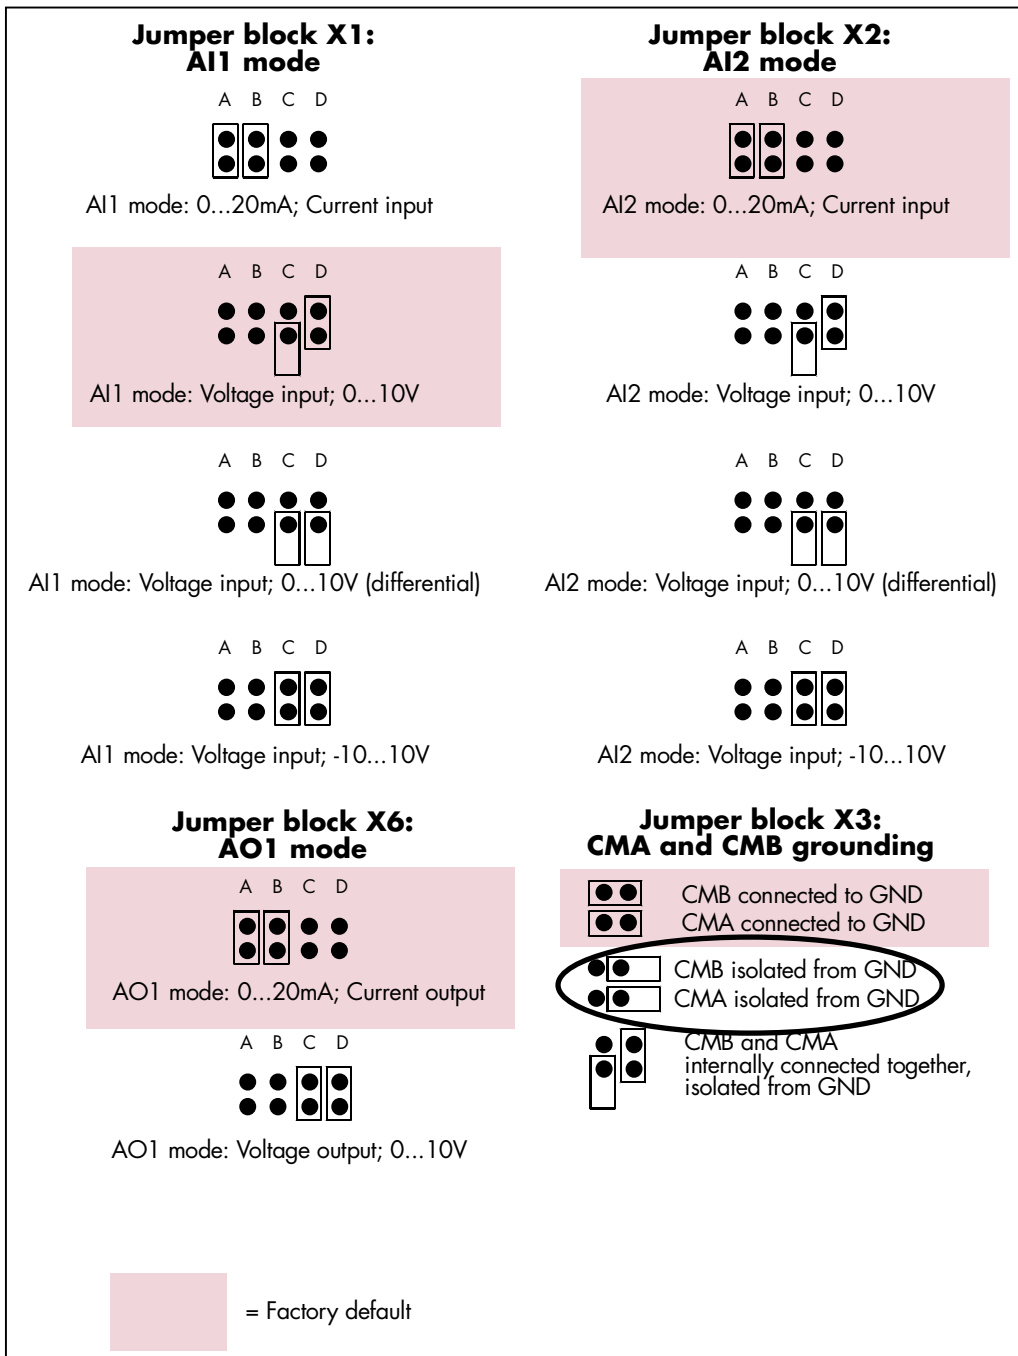

Figure 14. Jumper selection for OPT-A1
**NOTE!** All digital inputs are used with negative logic (0V is active). Jumper X3 has to be connected so that CMA and CMB are isolated from ground, i.e. OPEN. See Figure 14 below.